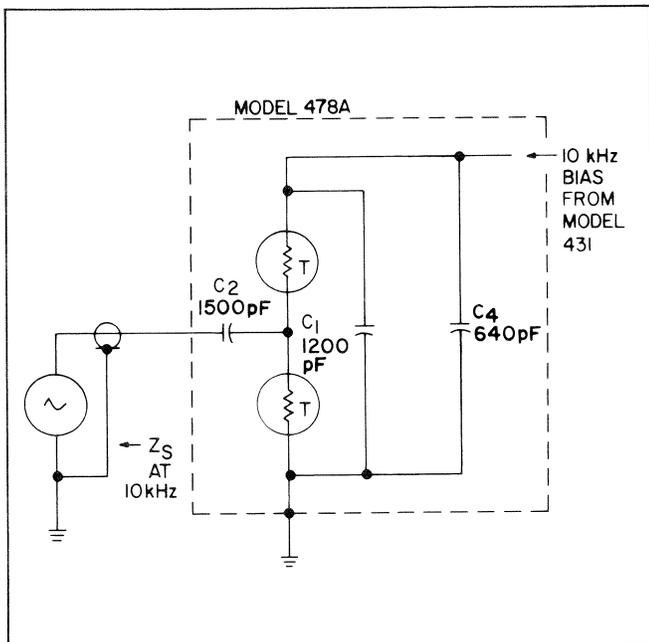

Figure 4. Source Impedance Shunting One RF Thermistor Mount
28. With the Model 478A mount connected to the RF system, the source impedance shunts one of the RF thermistors (see Figure 4); when the Model 478A mount is disconnected, the source impedance is removed. Unless source impedance is high, this variation in impedance affects the RF bridge 10-kHz feedback loop in the power meter, and the zero-level setting obtained with the source disconnected is no longer zero for the measurement. This error can be eliminated by terminating the mount in an impedance which approximately matches the generator impedance at 10 kHz; the termination should be connected while the mount is disconnected (see Paragraph 27) from the source. For example, if the impedance presented by the RF system to 10 kHz is low (1K ohm or less) terminate the thermistor mount in a 50-ohm resistor or a short. On the other hand, if the impedance of the RF system at 10 kHz is high (100K ohms or more) leave the thermistor mount unterminated during zero-set.